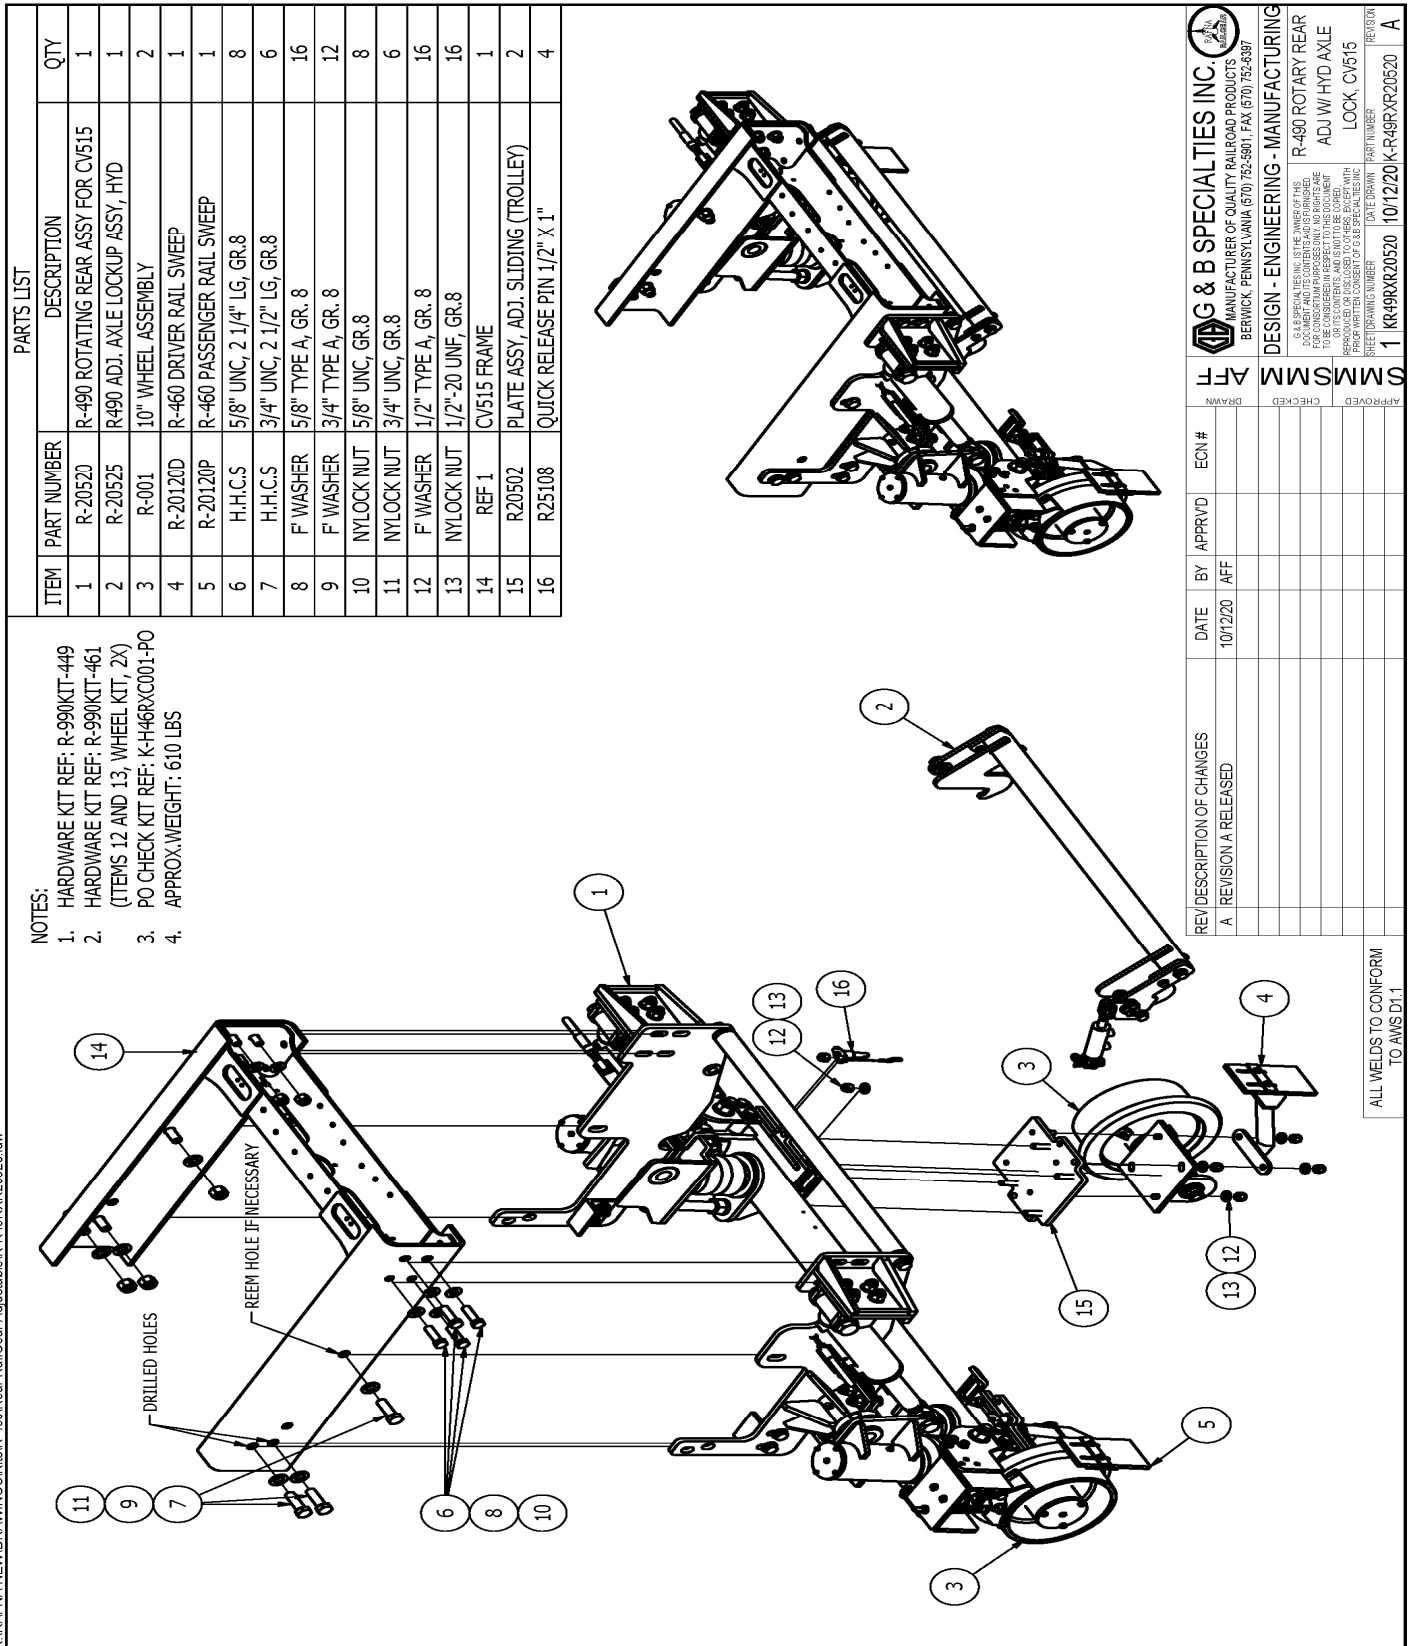

Figure 1: Installation of R-490 Rotary Rear K-R49RXR20520
- Loosen the fasteners securing the railgear support angles to the railgear mounting plates. Position and support the railgear so that the railgear mounting brackets are on either side of the rear of the vehicle frame with the blind end of the hydraulic cylinders facing the rear of the vehicle. The mounting plates will fit around the vehicle's suspension hangers. (Figure 1&2)
- The holes in the mounting plates should align with existing holes in the vehicle frame. It may be necessary to loosen the fasteners that support the railgear cross brace and/or the railgear lockup weight bar to be able to fit the railgear on the frame. (Figure 1)
- Fasten each railgear mounting plate to the vehicle frame, using the supplied 5/8" and 3/4" fasteners, through the existing frame holes as shown. Tighten but do not torque these fasteners. (Figure 1)
- Using the mounting plates as a guide, drill the vehicle frame as shown for the remaining railgear mounting fasteners. (Figure 1)
8. Place the rail wheels below the mounting tables on the railgear axle. Place the rail sweeps behind the rail wheels and on the bottom of the mounting tables. Fasten the rail wheels and rail sweeps to the mounting tables using the 1/2"-20 UNF Nylock Nuts and Washers supplied in the kit. (Figure 1 & 4) Tighten but do not torque the 1/2" Nuts as they will be torqued following the railgear alignment procedure.